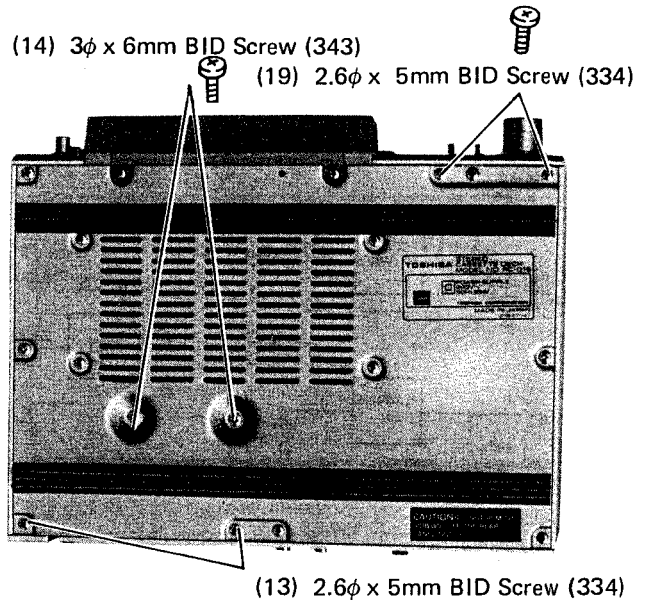
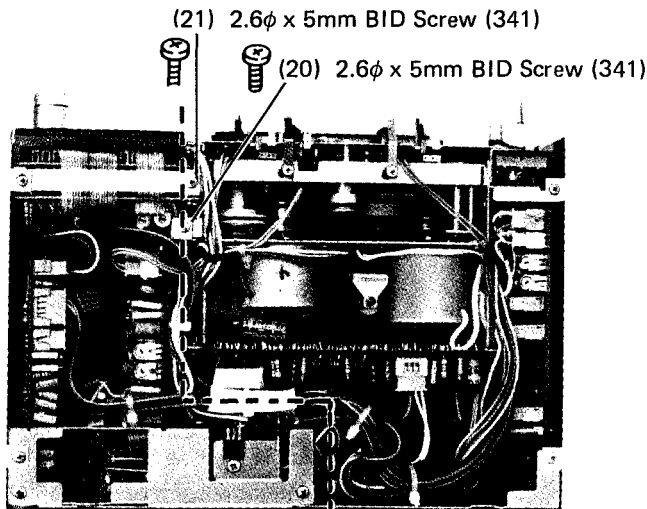

Figure 24.
Figure 26.
1. Remove one screw (12) and four screws(13) and (14) holding the bracket for the transformer as shown in Figure 24 and 25 and the bracket can be removed.
1. After removal of the power transformer mounting bracket, remove two screws (19) and one screw (20) as shown in Figure 24 and 26. The type mechanism assembly and the main chassis assembly can be separated as illustrated with a dotted line. (See Figure 26.) This is capable of checking and replacing parts on the Main P.C.Board and the logic P.C.Board.
1. Remove two screws (21) and (22) holding the LED P.C.Board and the meter drive P.C.Board as shown in Figure 26 and 27, and these P.C. Boards with the tape counter can be removed. Take care of the counter belt looped on the tape counter.